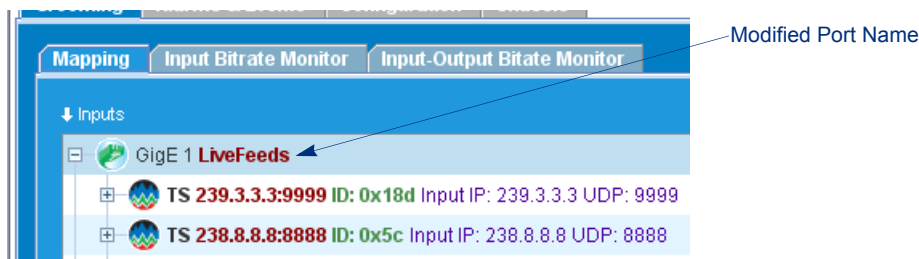

Figure 44. Port Name Modified
3. Click **OK**. The modified port name appears (Figure 44).